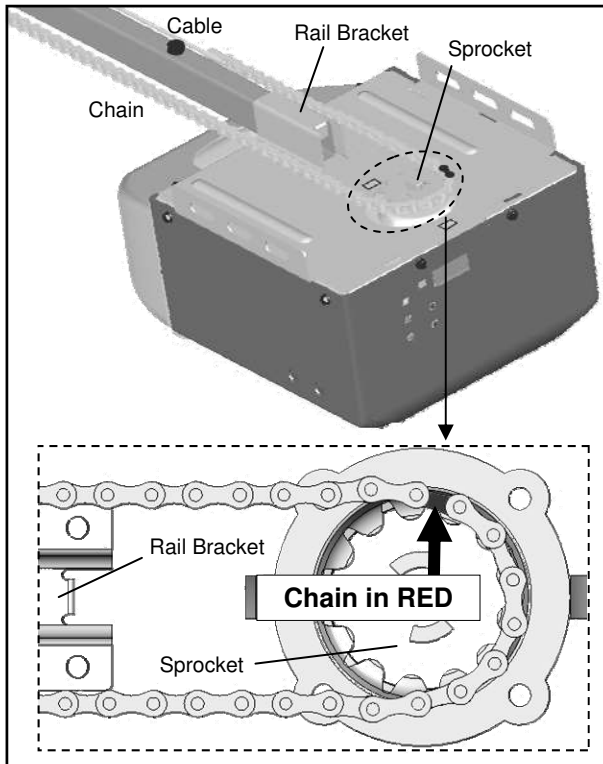

Fig.1
2. A segment of chain marked in RED will be seen. Place this segment in the approximate location on the sprocket as shown in Fig.1.